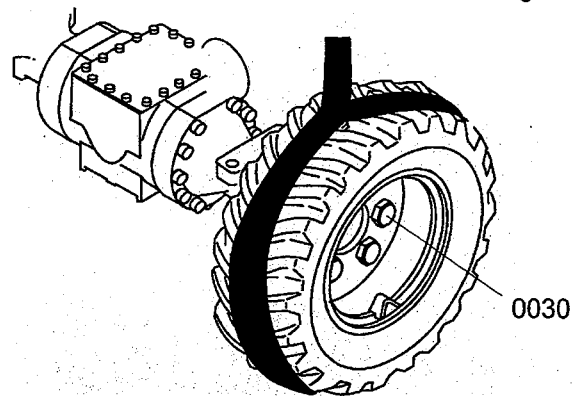

Fig37-00:
2. Fig37-00: Install the tire assemblies with the bolts (0030) temporarily tightened.
4. Fig37-00: Finally tighten the bolts (0030) that are temporarily tightened in step 2.